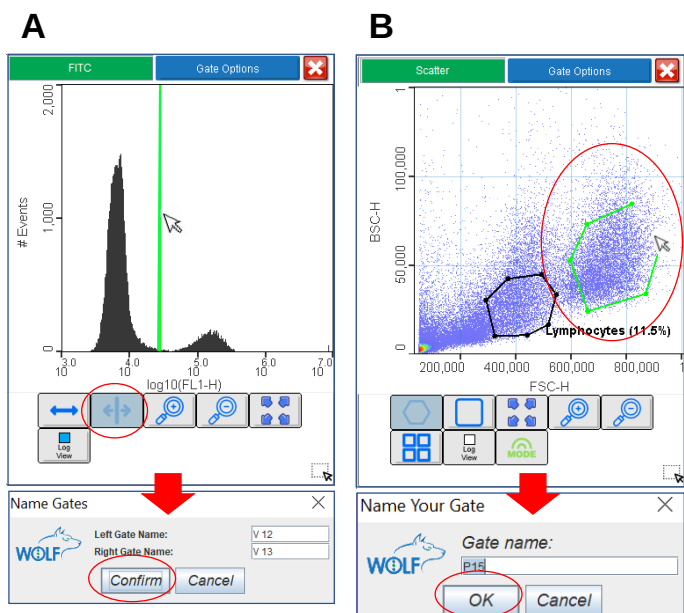

Figure 40. Creating plot gates
2. For **vertical and quadrant gates**, click on the plot to apply it (Fig. 40).